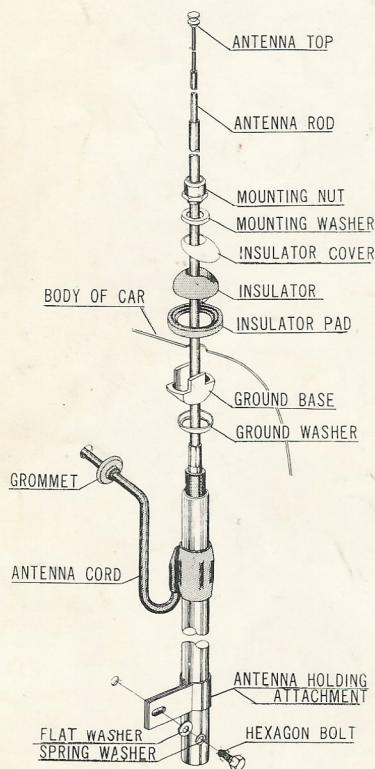

Fig. 2
3. Disassemble the upper portion of the Antenna by loosening the Mounting Nut and removing all small parts up to and including the Insulator Pad as shown in Fig. 2. Do not remove the telescopic antenna section from main body.